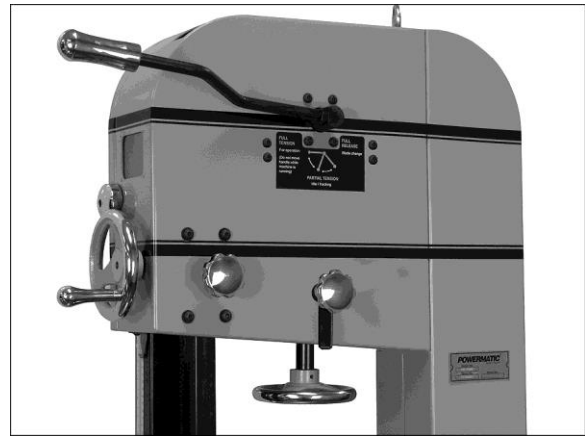

Figure 19
Refer to Figure 19.
- With blade centered on wheels, move quick tension lever to “Full Tension” position, as shown in Figure 19. NOTE: You should feel tension lever settle into each of its three positions.